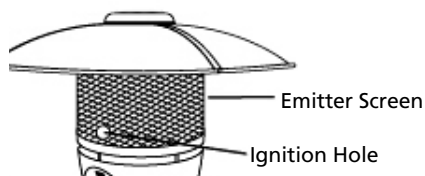

Figure 12 – Emitter Screen and Ignition Hole
- As you are depressing the Control Knob, place long stem lighter into the ignition hole (Figure 12) on the Emitter Screen to light the pilot.